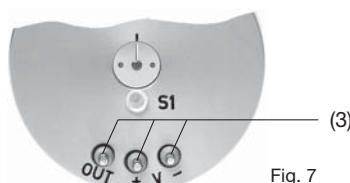

Fig. 7
There are 3 soldering posts (3) on the back of the transmitter for attaching the electrical connections (see Fig. 7). The soldering posts suffice Protection Class IP 00 according to EN 60 529.